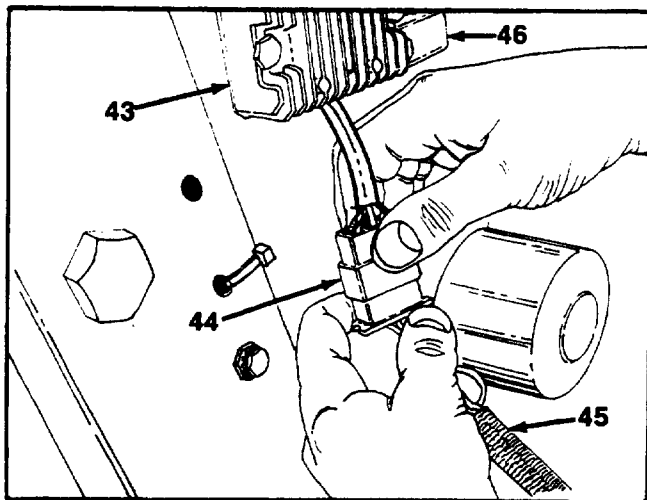

FIGURE 23.
26. Disconnect the wire harness from the regulator and circuit breaker. See figure 23.